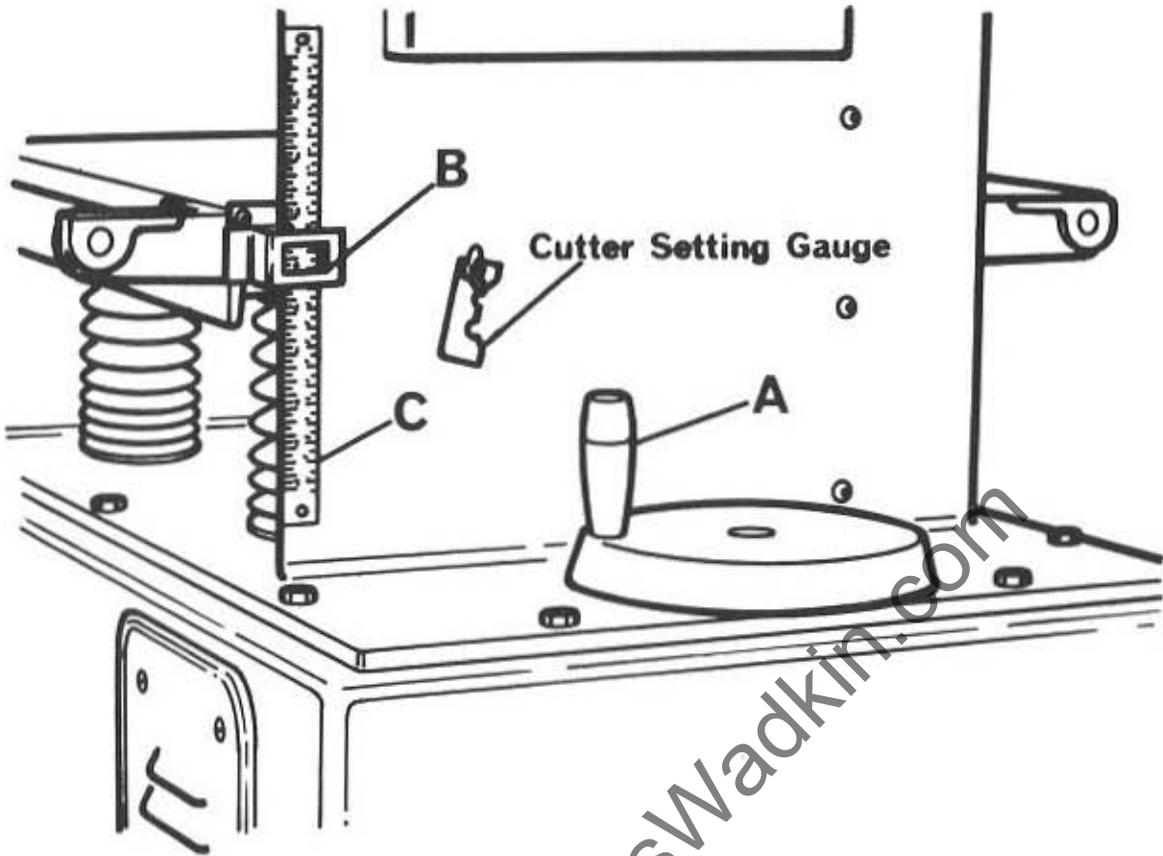

FIG. 4
Rise & Fall of machine table is by conveniently placed handwheel "A" in FIG. 4. The pointer "B" on scale "C", indicates the thickness of timber machined.
5. Position cutter setting gauge "C" (when not used, is secured to machine as shown in FIG. 4) in cutterblock setting gauge groove "D" and with central part of gauge over cutter edge as shown.
10. To avoid future misplacement, replace setting gauge to position shown in FIG. 4.